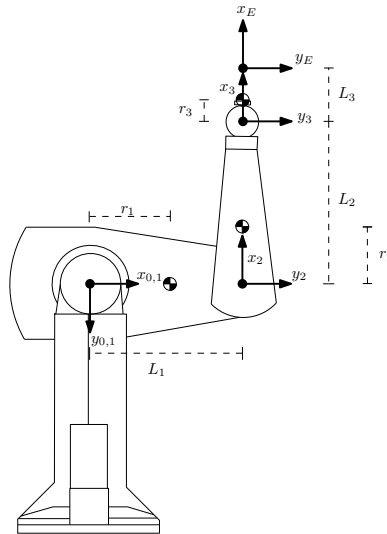

Figure 1: RRR Puma in zero configuration.
This assignment deals with the RRR planar manipulator shown in Figure 1. The joints of this manipulator correspond to the joints 2, 3, and 5 of a PUMA 560. You will implement the methods of the class FORWARDKINEMATICS PUMA2D in the provided file *forwardkinematics.cpp*.
- [10 Points] Adjust  $kp$  and  $kv$  so that the trajectory is tracked well and the joint torques don't exceed the limits. Make graphs showing  $\tau$ ,  $x$ ,  $x_d$ ,  $\theta$ , and the position error  $e = x - x_d$  over time  $t$  of one circle. How does the graph for the error  $x - x_d$  change for different values of  $kp$ ? Make another graph showing  $x$ ,  $x_d$  in the 2D plane. Use a plotting tool of your choice. Hints: `gv.x` contains three values: the current x-position, the y-position and the orientation  $\alpha$  of the end-effector. Note that the y-axis in the simulator is orientated in the opposite direction as the one in figure1. You should first move the robot close to  $x(t_{start})$  by executing `proj1Control()`